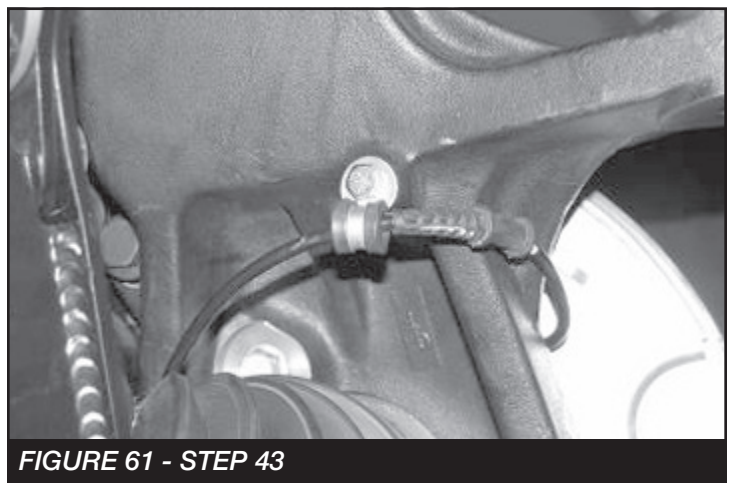

FIGURE 61 - STEP 43
43. Re-route the brake hose and the ABS Line to the steering knuckle using the adel clamp to the back of the steering knuckle and attach with  $\frac{1}{4}$ " x  $\frac{3}{4}$ " bolt and washer. Torque to 10 ft-lbs. Route the ABS line next to the brake hose. Re-connect the ABS line to the harness in the wheel well. Using provided plastic tyrap secure line to the hose and away from the tire and wheel. **SEE FIGURE 61**